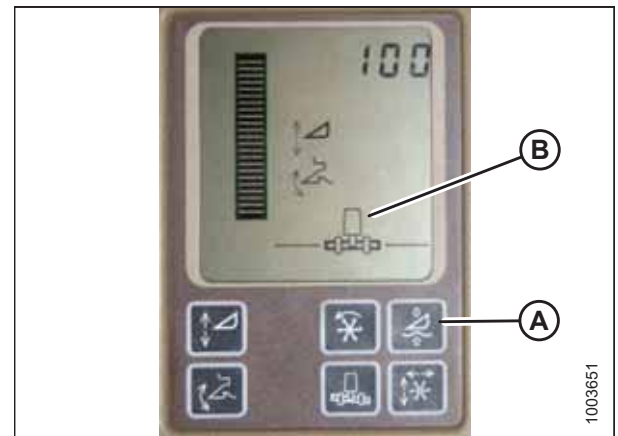

Figure 4.68: John Deere Combine Display
Do **NOT** use active header float function (A) in combination with MacDon auto header height control (AHHC)—the two systems will counteract one another. The header symbol (B) on display should **NOT** have a wavy line under it and should appear exactly as shown on Active Header Control Display in Figure 4.68, page 129.